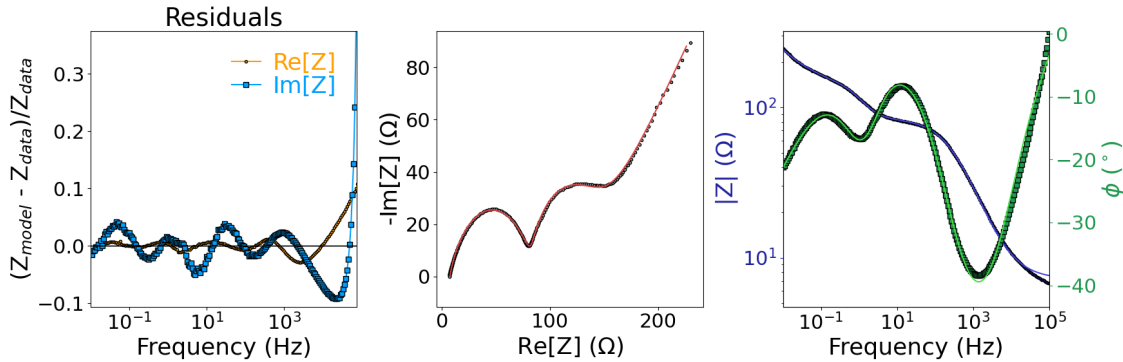

Figure 38: Final refinement result.
18. The final refinement step covers the entire frequency range and all parameters. With the Calculated modulus weighting scheme, the result is Figure 38.